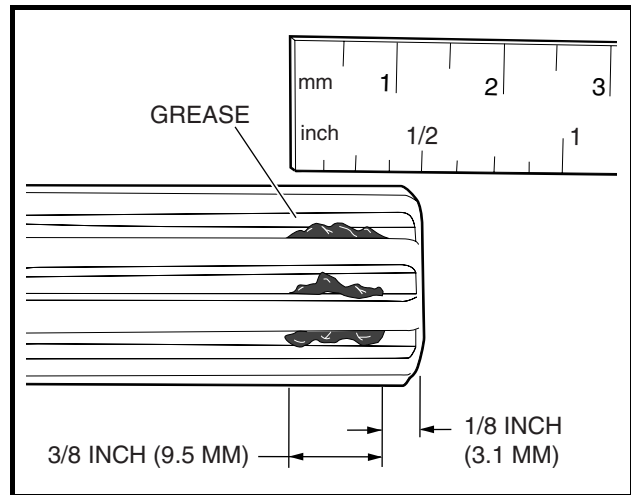

Figure 16b-21 Application of grease to Input Shaft Grooves
- 2.6. Check the chamfer and end of the input shaft to ensure these areas are completely clean of grease as shown (**Figure 16b-22, Page 16b-14**).